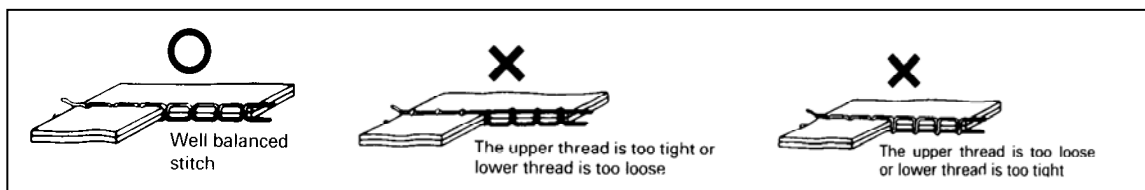

Fig.17
20、 Adjusting the thread tension (Fig.17):